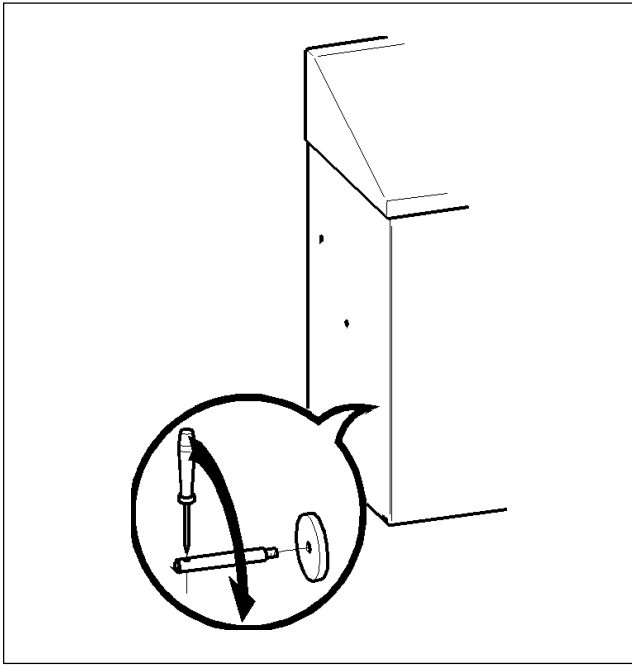

Fig.20
**A.** Install the accessories pegs (Fig.20). Tighten them firmly.